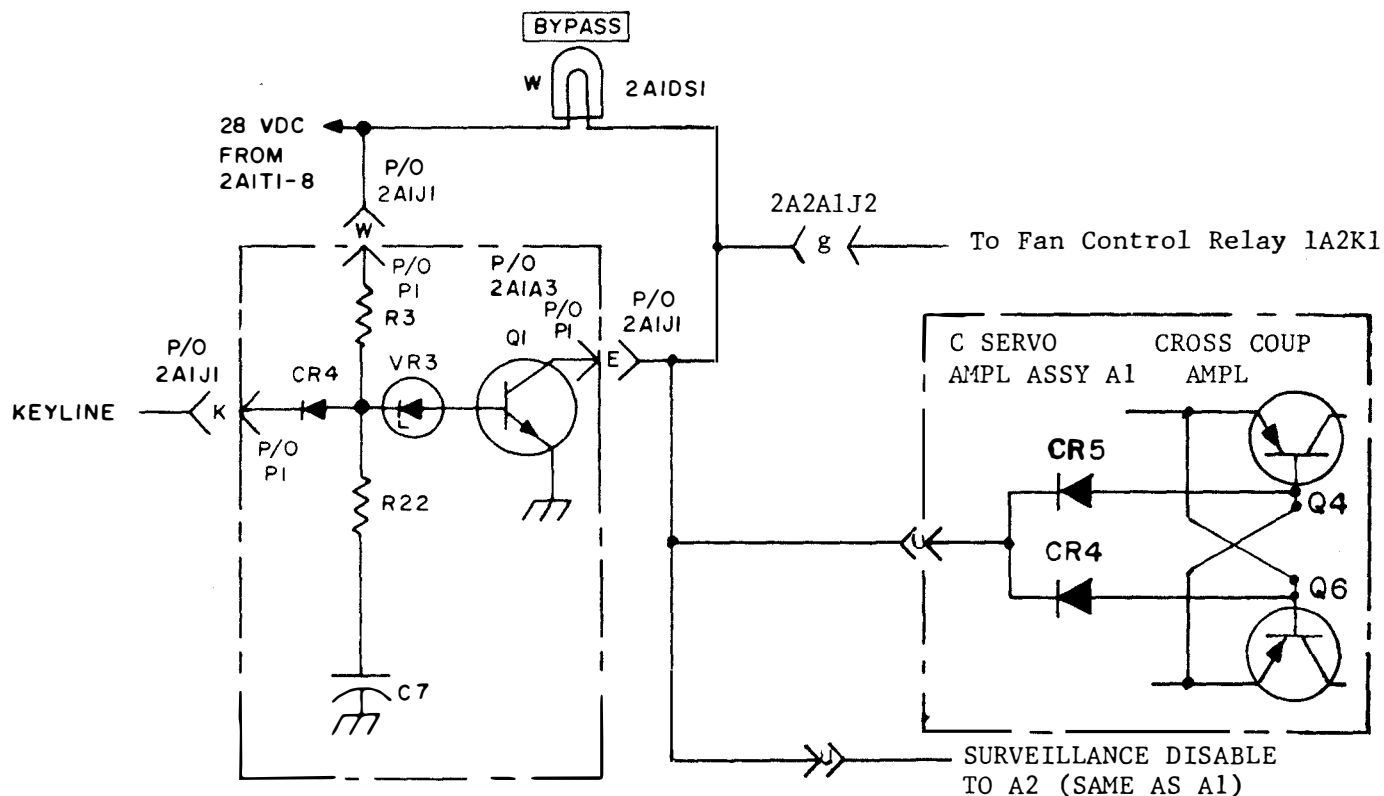

Figure 4-16. SURVEILLANCE DISABLE, Simplified Schematic Diagram
4-86. When the tuning cycle is initiated by momentarily keying the system, the motor-on and tune logic circuits (paragraphs 4-74 and 4-82) provide a positive key hold signal through pin J of connectors 2A1J1 and P1 to voltage divider 2A1A3R20-R21. This positive level turns on transistor 2A1A3Q4, which in turn biases transistor 2A1A3Q5 on, causing its collector to go to ground. This ground is applied through pin K of connectors 2A1A3P1 and 2A1J1, feedthru capacitor 2A2A1C2, pin B of connector 2A2A1J1, and the interconnecting cabling to the AN/URT-23(V). Transistor 2A1A3Q5 also grounds resistor R15, removing forward bias on transistor Q3 to release the keyline interlock and permit RF power to be generated by the AN/URT-23(V). This key down condition maintains a low power RF output from the AN/URT-23(V) until the tuning cycle has been completed. At the completion of the tuning cycle, the key hold signal goes away, releasing the ground on the system keyline and reapplying the ground to the keyline interlock line. The AN/URA-38 is now ready for full power operation. The Surveillance Disable circuit (Fig 4-16) consists of a single switching circuit. The function of this circuit is to disable the Servo amplifiers (Automatic and Silent tuning) when the transmitter is unkeyed, thus preventing accidental false tuning during a period of Standby or Receive. A strong signal from a nearby transmitter on a different operating frequency could induce voltages in the CU-938/URA-38 antenna tuning network large enough to generate discriminator error signals which can cause the servos to go to some random position if the servo amplifiers were not thus interlocked with the Keyline.
4-94 GENERAL: The Surveillance Disable circuit (Fig 4-16) consists of a single switching circuit. The function of this circuit is to disable the Servo amplifiers (Automatic and Silent tuning) when the transmitter is unkeyed, thus preventing accidental false tuning during a period of Standby or Receive. A strong signal from a nearby transmitter on a different operating frequency could induce voltages in the CU-938/URA-38 Antenna tuning network large enough to generate discriminator error signals which can cause the servos to go to some random position if the servo amplifiers were not thus interlocked with the Keyline.